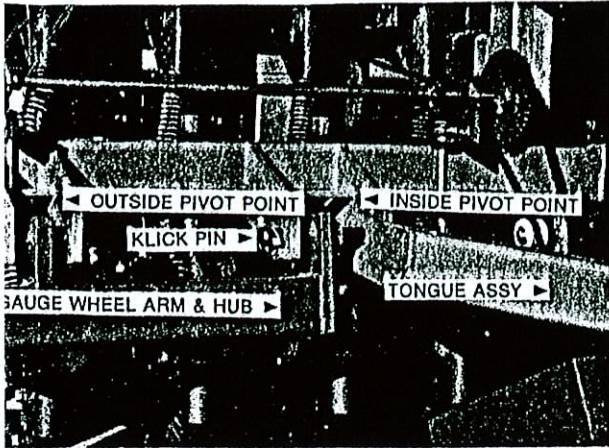

Figure A-2
5. Attach lift wheels between pivot ears as shown in Figure A-2. Inside pin also attaches tongue assembly. See Figure A-2. Replace all click pins to insure pins will not come out.